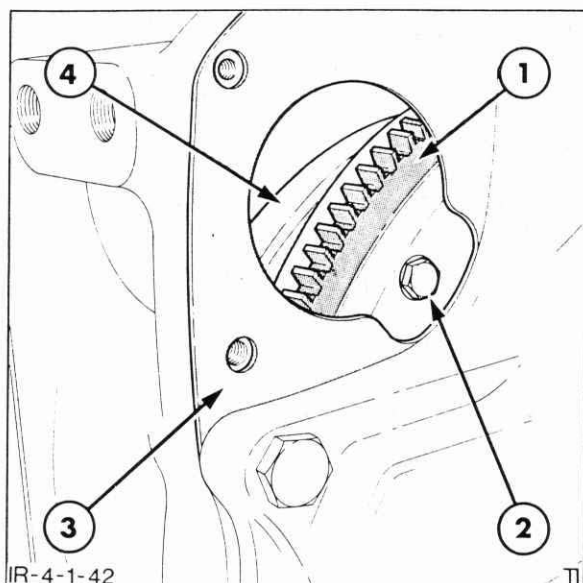

Figure 4-141
4. Working through the starting motor opening, Figure 4-141, install the attaching bolts and washers finger tight. Rotate the flywheel as required until all eight bolts and washers are installed.